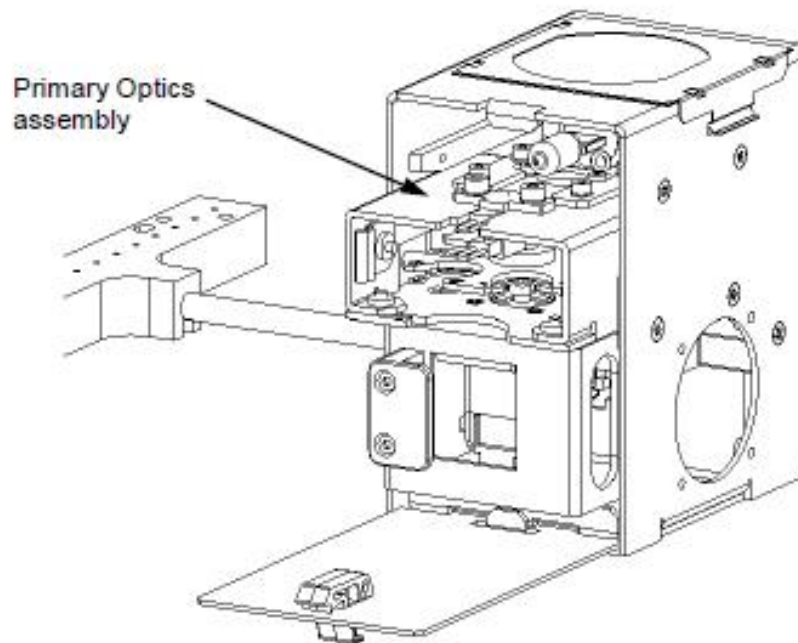

Figure N-3: Primary Optics Assembly
1. Slide out the Primary Optics Assembly (Figure N-3).